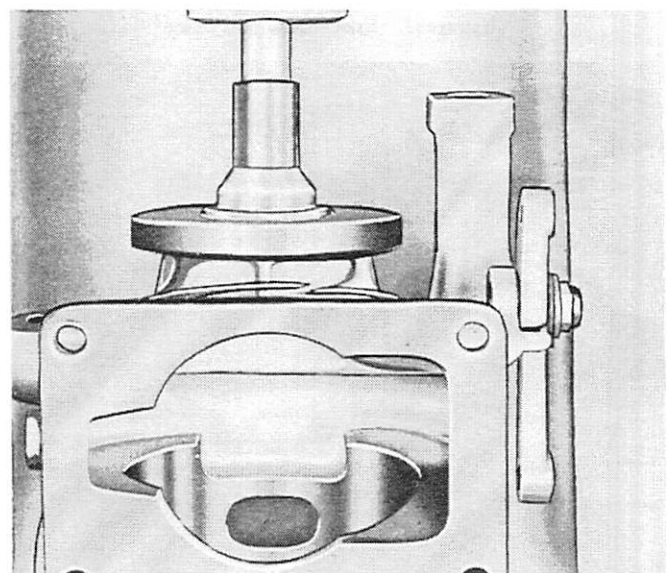

Figure 7. Removing Upper Roller Bearing - Crankshaft
8. Press down on large end of Needle Bearing Drift (91-24726) from top of crankcase to remove upper roller bearing. (Figure 7)